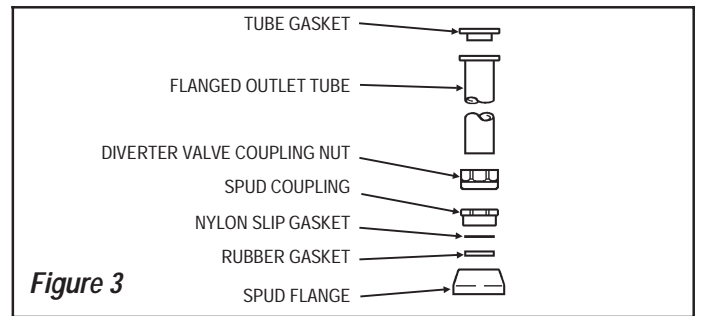

Figure 3
Step 3 — Install Flanged Outlet Tube (Figure 3)